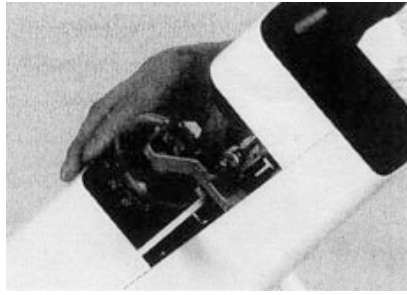

Fig. 12
3.10 Astigmatism axis measuring handwheel (Fig.12)